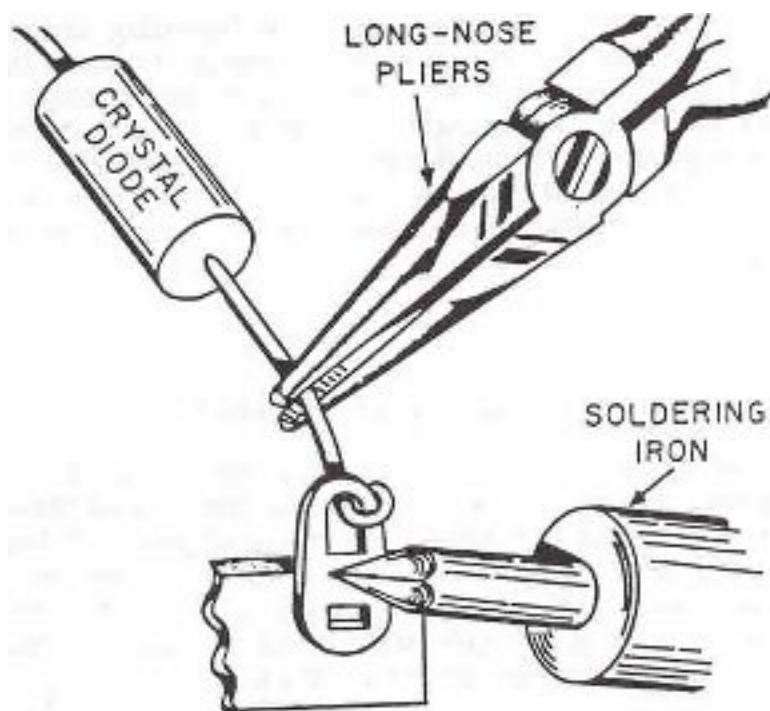

FIGURE 2. HOW TO SOLDER THE DIODE
- () Note that the general purpose crystal diode has an **ARROW HEAD** marking on one end and a **BAR** marking on the other end. Some diodes may be marked with a bar or a K, which corresponds to the bar. To prevent heat damage to the diode hold the leads with a pair of long-nose pliers as you solder each lead in place. See Figure 2. Solder the lead from the end that is marked with a **BAR (DOT or K)** to the head-phone clip nearest the coil. Solder the other lead of the diode to the 30-turn tap.